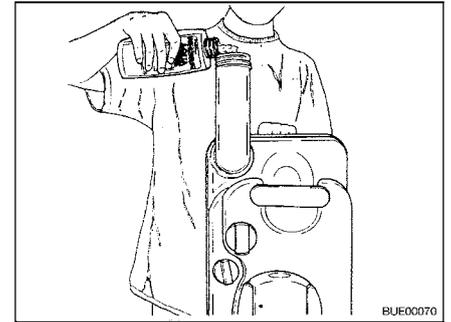

Fig. 290 Filling with sanitary liquid
- Fill the stated amount of sanitary liquid into the sewage tank (Fig. 290).